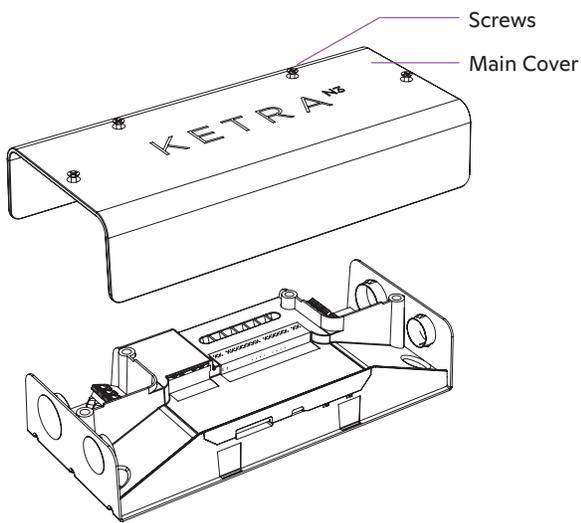

fig. 4
1. Remove the lid. Note that screws are captive and need not be fully removed from lid (see fig. 4).